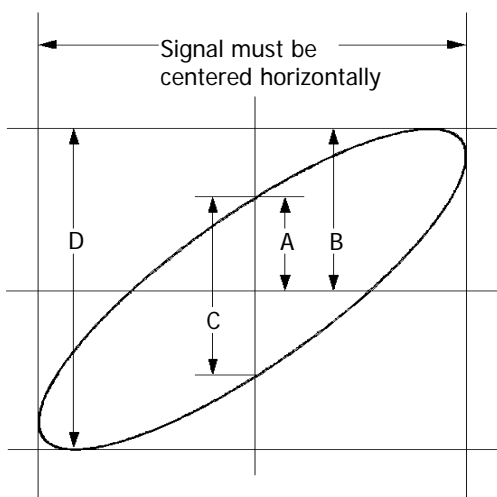

Figure 4-1 Measurement Schematic Diagram of Phase Deviation
4. Observe the measurement result shown in the figure above. According to the measurement schematic diagram of the phase deviation (as shown in Figure 4-1),  $A/B(C/D)=1$ . Thus, the phase deviation angle of the two channel input signals is  $\theta = \pm \arcsin 1 = 90^\circ$ .